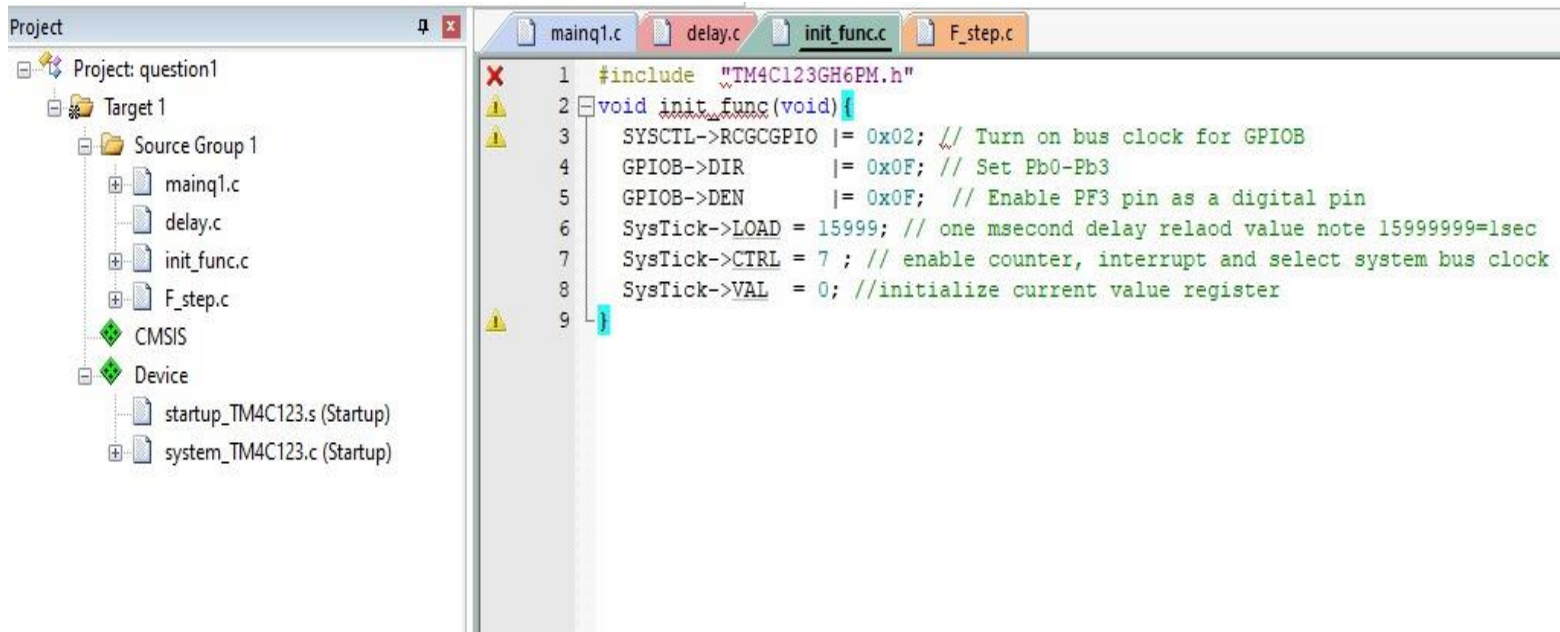

Figure 3: Initialization Function
- In init_func we opened clock for port B and Pb0-Pb3 as input ports and we enabled systick timer to see its effect. While using systick initialization we utilized notes from experiment manuel and we redefined it to 1msec. It can be seen in Figure 3